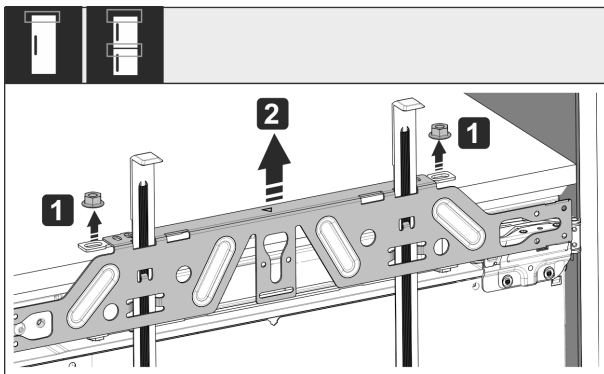

Fig. 58
- ▶ Loosen locknuts Fig. 58 (1).
- ▶ Remove crosspiece Fig. 58 (2).